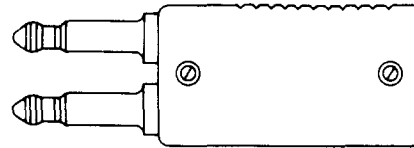

Fig. 21—446A Plug
2.19 446A: The 446A (Fig. 21) consists of twin, 3-conductor plug fingers housed in a shell of black insulating material. The tip of each finger of the plug will not momentarily short circuit the tip and ring springs of the jack that it is inserted into, except under remote conditions such as repaired jacks. The 446A plug replaces the 361A plug and is designed to mate with 238-, 239-, or similar-type jacks. This plug is used in the H330-138 Private Line Telephone Testboard Lower Unit.